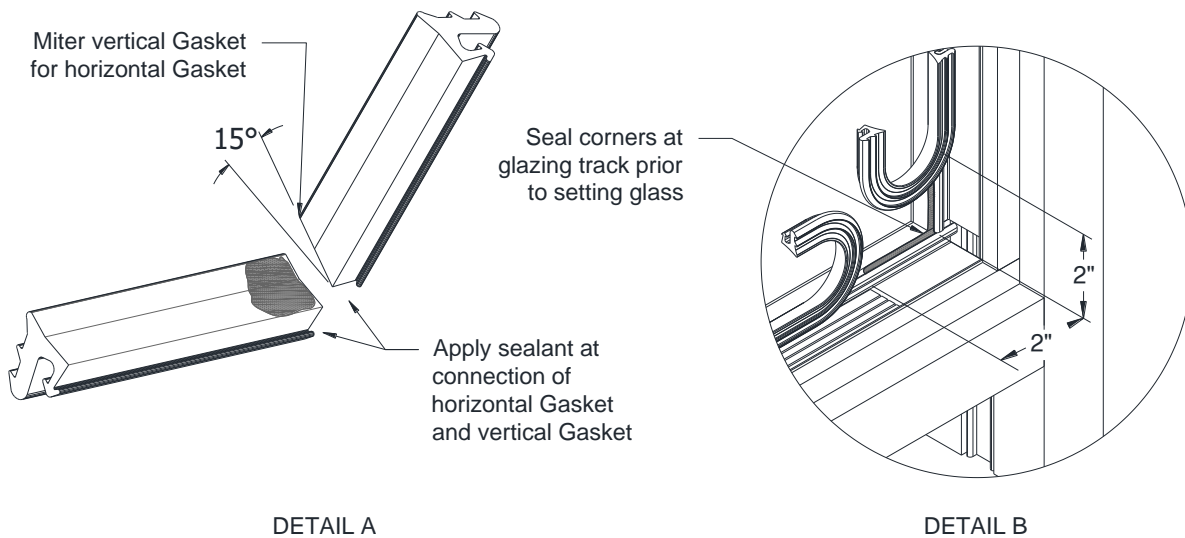

Figure 33: ArmorDefend™ Dry Glazing Exterior Gasket Corner Detail at Transom
11.2.1.3 When installed, vertical gasket runs the length of the Transom Sash and the horizontal gasket runs the length of the Door Head and Transom Head. The vertical gasket needs to be mitered to connect to the horizontal gasket. Miter the vertical **FG-1133** at 15° per *Figure 33, Detail A*, to accommodate this installation situation.
- 11.2.1.6 Apply sealant in the Transom Stop raceway and horizontal raceways per the locations indicated in *Figure 33, Detail B*. Set the horizontal Gasket first. Apply sealant at the connection point of the horizontal Gasket and the vertical Gasket, *Figure 33, Detail A*, before setting vertical Gasket. Clean any squeeze out immediately.